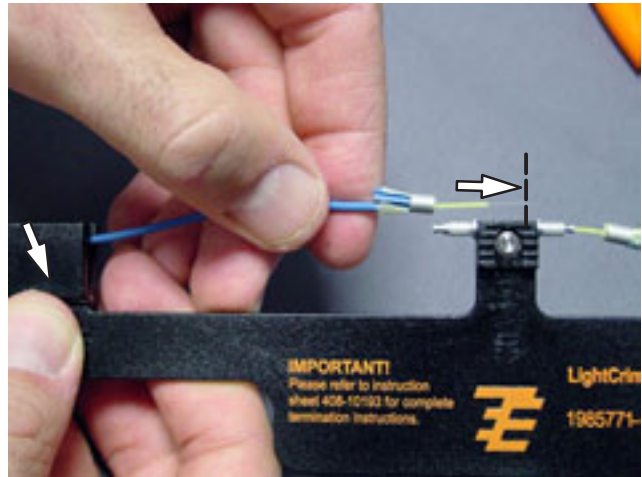

Figure 78
7. Open the clamp on side B and align the tip of the fiber with the edge of the ejector button or approximately 2 mm from the edge of the holder as shown in Figure 78.